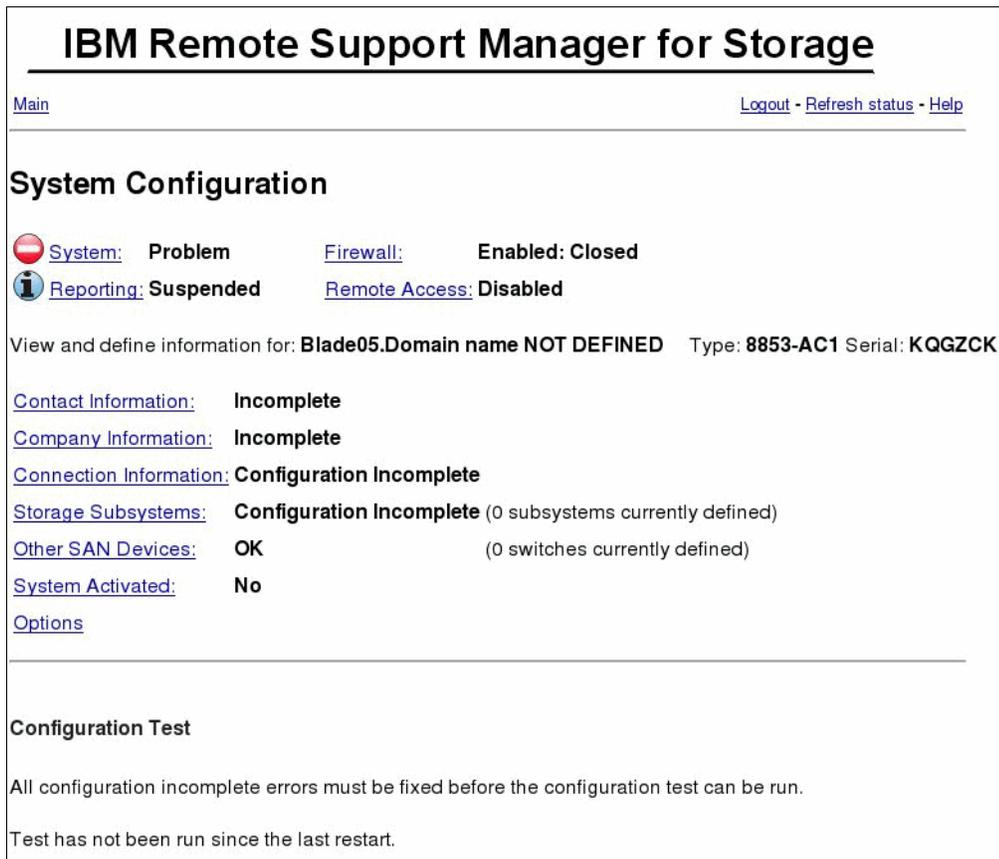

Figure 6-62 System Configuration incomplete
- The System Configuration page shows incomplete tasks that must be completed before the RSM system can be used (Figure 6-62).
8. The contact information task in the system configuration will be marked OK. Click **Company Information**, as shown in Figure 6-62 on page 379.
10. The company information task in the system configuration is marked OK. Click **Connection Information**, as shown in Figure 6-62 on page 379.
12. The connection information task in the system configuration will be marked OK. Click **Storage Subsystems**, as shown in Figure 6-62 on page 379.